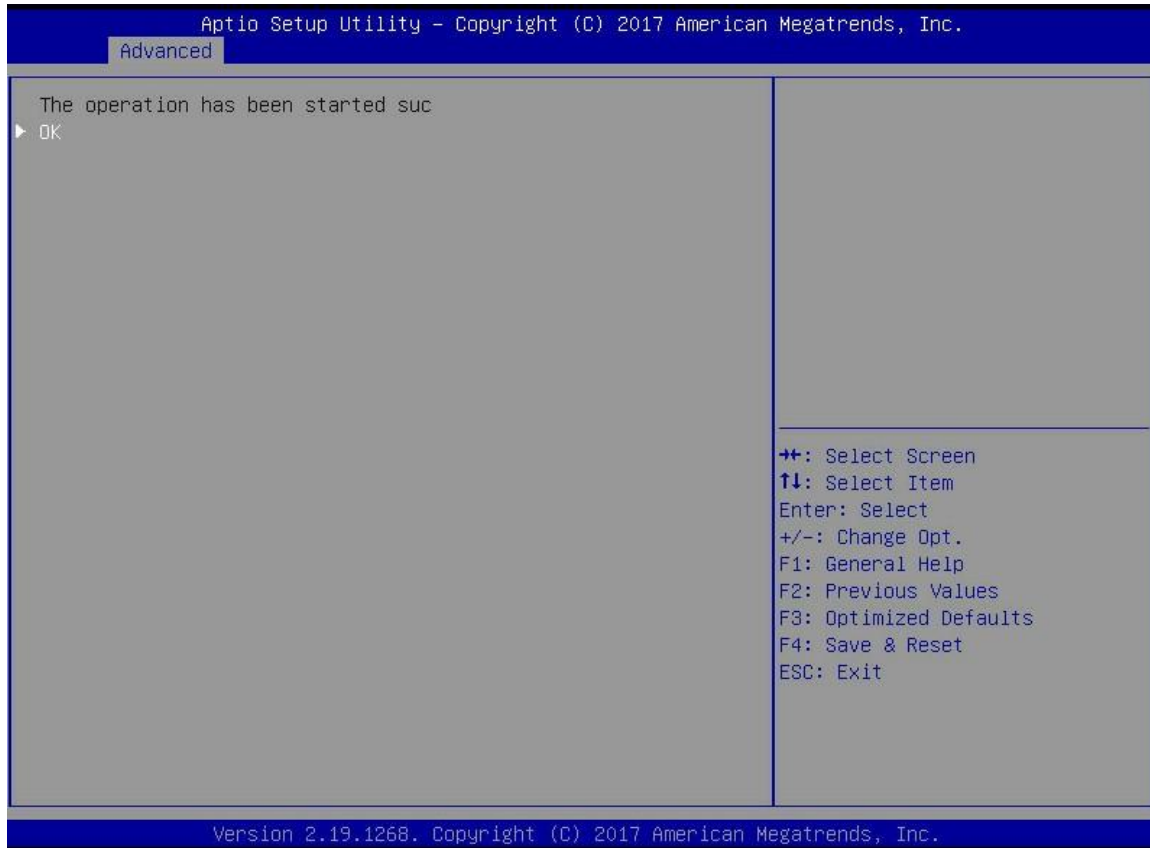

Figure 6-46
- f) Enter the interface shown in figure 6-46 to complete the initialization of logical disk.